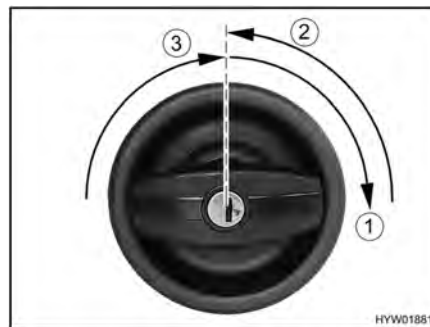

Fig. 22 Door lock of conversion door, outside, opening
- Insert the key into locking cylinder and turn in a clockwise direction (Fig. 22,1) until the door lock is unlatched.
- Return the key to the central position (Fig. 22,2) and remove it.
- Turn the door knob in a clockwise direction (Fig. 22,3) until the door lock is unlatched.